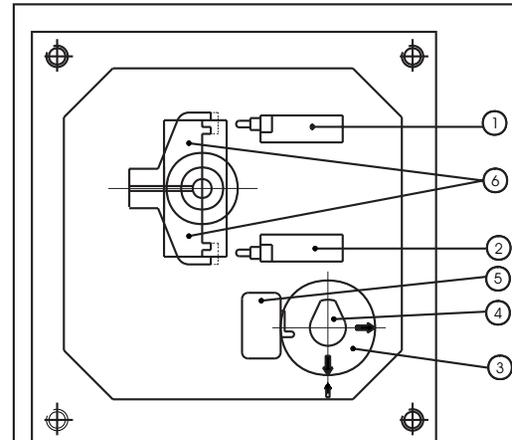

FIG. NO. 1
A) STANDARD ACCESSORIES : (Ref. Fig. No. 1)